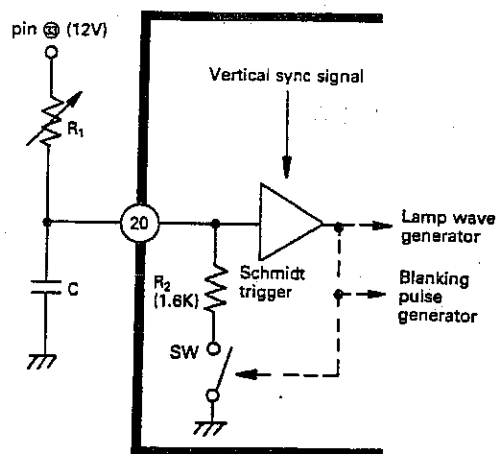
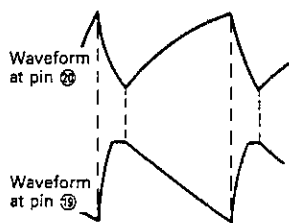

Figure 26-1.
Figure 27-2.
The vertical oscillator circuit consists of a time constant circuit (R_1 and C in connection with ②), Schmidt trigger circuit as well as R_2 and switch SW (see Fig. 26-1).
The constant voltage circuit in the lamp wave generator circuit is turned on when the vertical oscillation is at its rising edge (with the switch SW turned on: see Fig. 26-1), so that the capacitor in connection with pin ⑮ is instantly charge up. And a current then available at pin ⑮ is applied to pin ⑮; the amperage of this current is decided by the resistor connected to pin ⑮. So that the lamp waveform signal as shown in Fig. 27-2 is generated and sent to the vertical output circuit.